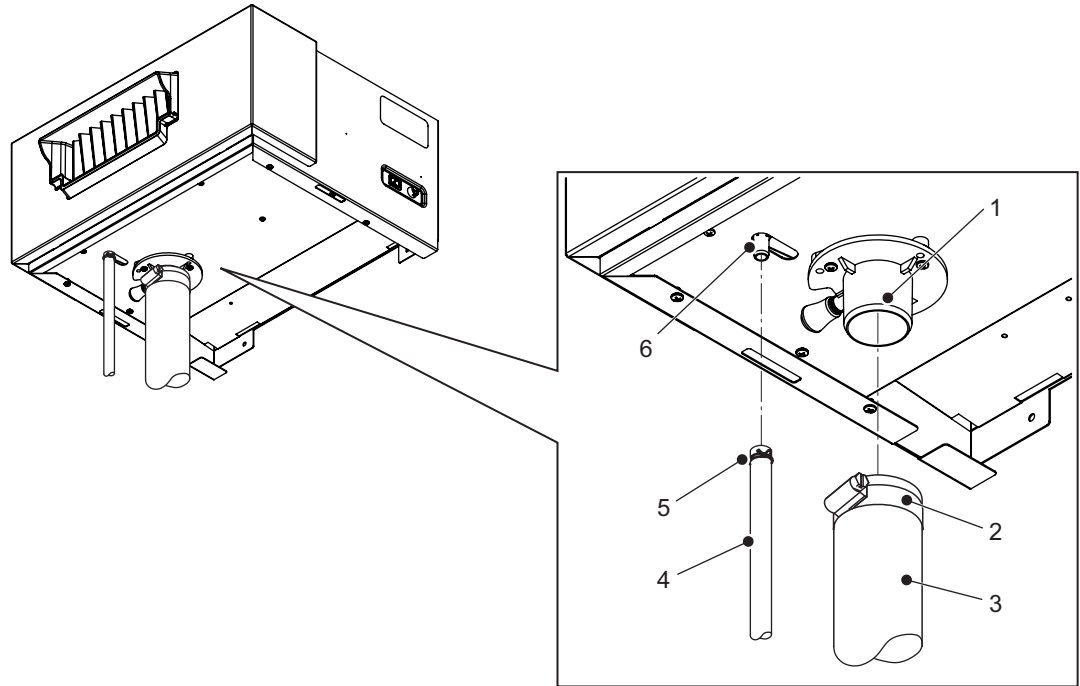

Figure 11: Hose Connections on Blower Pack
- a. Secure the steam hose (supplied by others) to the steam adapter with a hose clamp (supplied). Do not over-tighten the hose clamp – maximum torque is 180 N·cm. Refer to Figure 11.